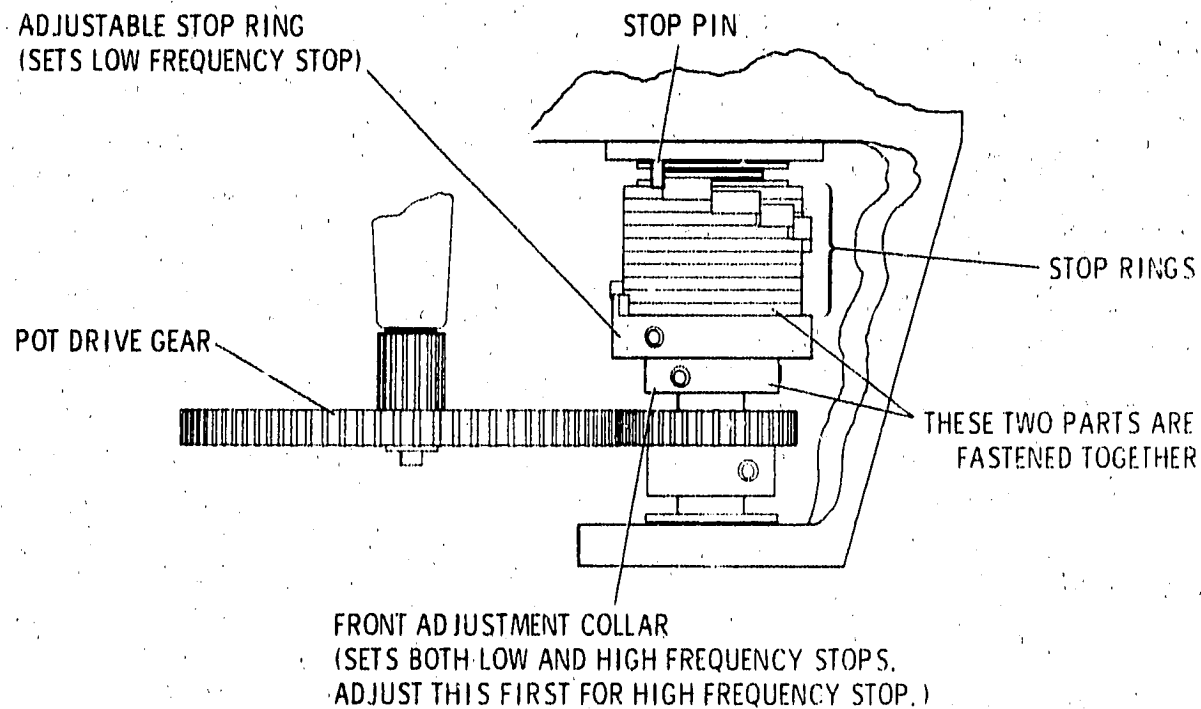

Figure 5-3. Locations of RF Oscillator Stop Adjustments Shown in Maximum ccw Position. Top View with Instrument Upside Down
4. Tune FREQUENCY TUNE fully ccw. Compare the position of the stop ring teeth with Figure 5-3.